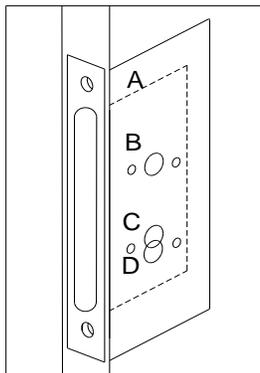

Fig 1
- 1) Cut or fold template along dotted line A and align against door edge as in Fig.1 .